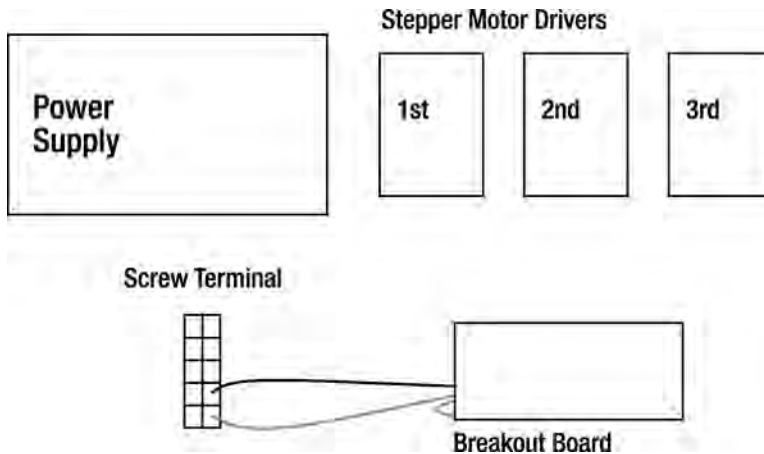

Figure 6-17. Place the stepper motor drivers so they can be supplied with power.
Now grab the three stepper motor drivers and place them as indicated in Figure 6-17.
■ **TIP** You can cut a piece of MDF or plywood for mounting all these electronics so they don't move around. We used a piece of plywood with dimensions of 9"×14" to lay out all the parts shown in Figure 6-17.